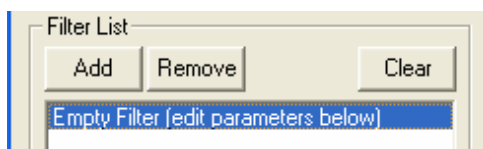

Figure 10
8. Select the “Empty Filter” item (Figure 10).